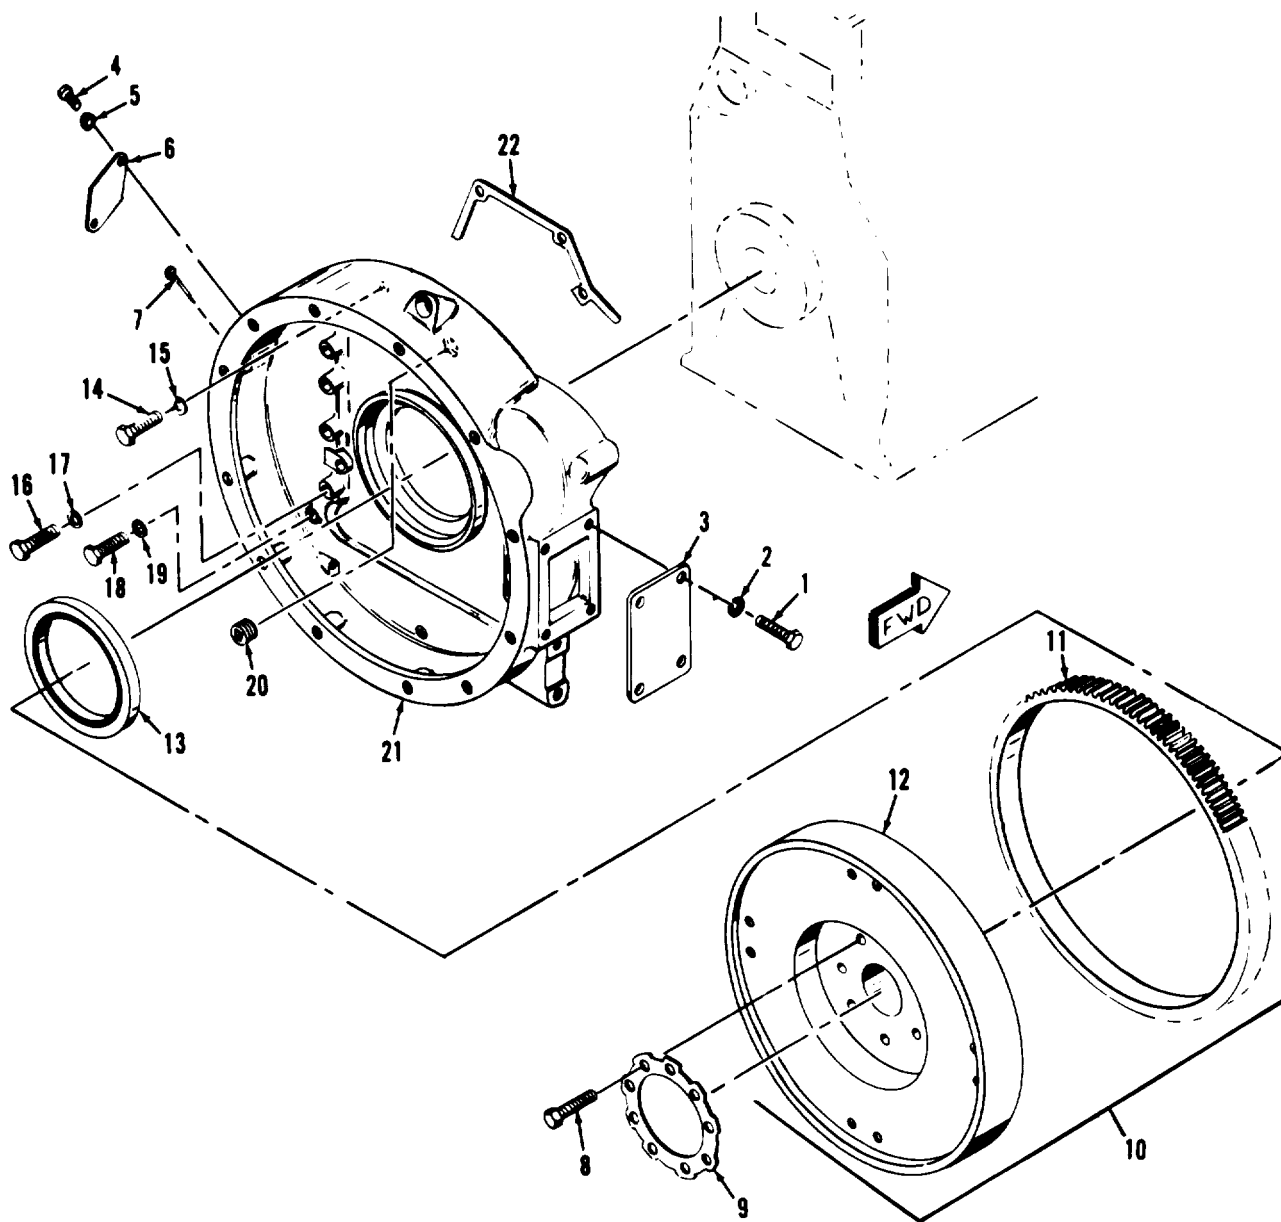
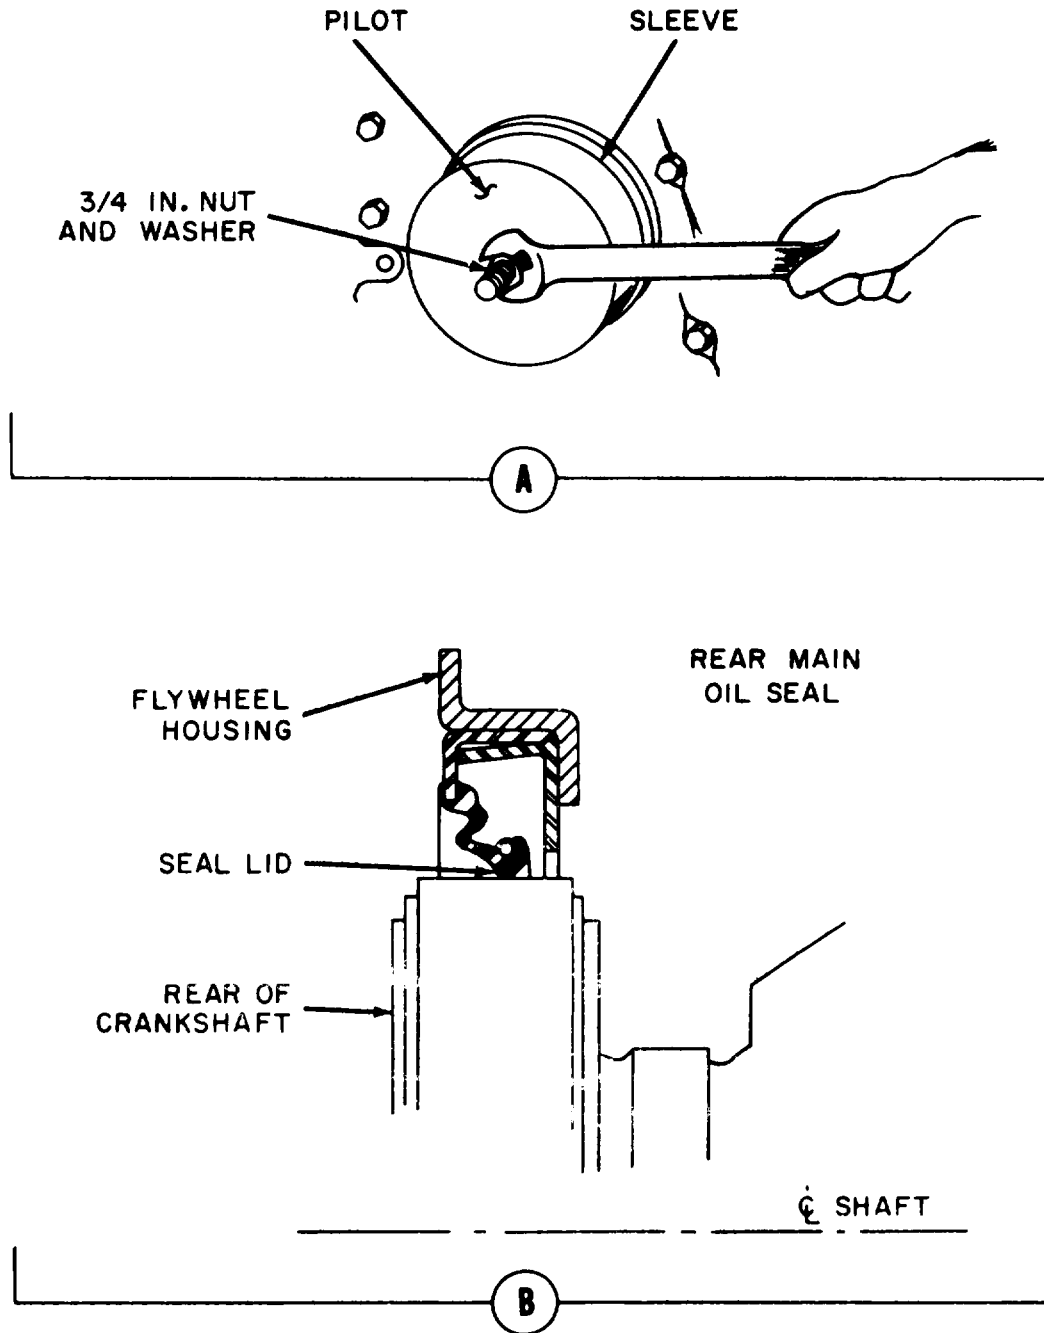

Figure 8-57. Flywheel and flywheel housing group,
Figure 8-58. Installing crankshaft seal
Refer to figure 8-57 and disassemble flywheel and flywheel housing in the order of index numbers assigned. Pay particular attention to the following:
Under no circumstances should the ring gear (11, figure 8-57) be heated over 600°F as excessive heating may destroy the original heat treatment. Do not heat ring gear in one area.
Refer to figure 8-57 and reassemble flywheel and flywheel housing group in the reverse order of index numbers assigned. Pay particular attention to the following:
Legend to figure 8-57:
2. Lubricate sealing lip of seal (13, figure 8-57) lightly with crankcase oil. Put MIL-S-22473 sealant on the outer metal shell of the seal. Bolt pilot to the crankshaft flange and position seal on pilot with lip facing cylinder block as shown in figure 8-58 (view B).
4. Tighten nut to press seal (13, figure 8-57) into flywheel housing (21). Remove installation tools.
e. Before locating flywheel assembly (10, figure 8-57) on crankshaft, make sure that alignment scribe lines are lined up.
flywheel housing (21, figure 8-57) bore). Stop and remove tool before recording each reading to ensure accuracy. The maximum total indicator reading must not exceed 0.012 inch.
7. If the flywheel housing (21, figure 8-57) face run-out is excessive, remove flywheel housing (21), and check for dirt or foreign material (such as old gasket material) between flywheel housing (21) and cylinder block. Install flywheel housing (21) and recheck the run-out. When run-out is correct, bend up lock ring tabs (9, Figure 8-57).